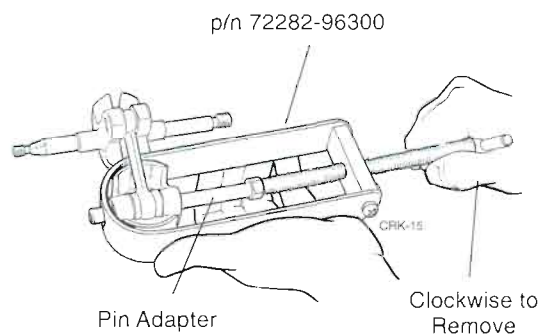

Figure 7.7 Removing the Piston Pin
STEP 1. Press the pin through the piston by turning the pin remover screw clockwise as shown in Figure 7.7.